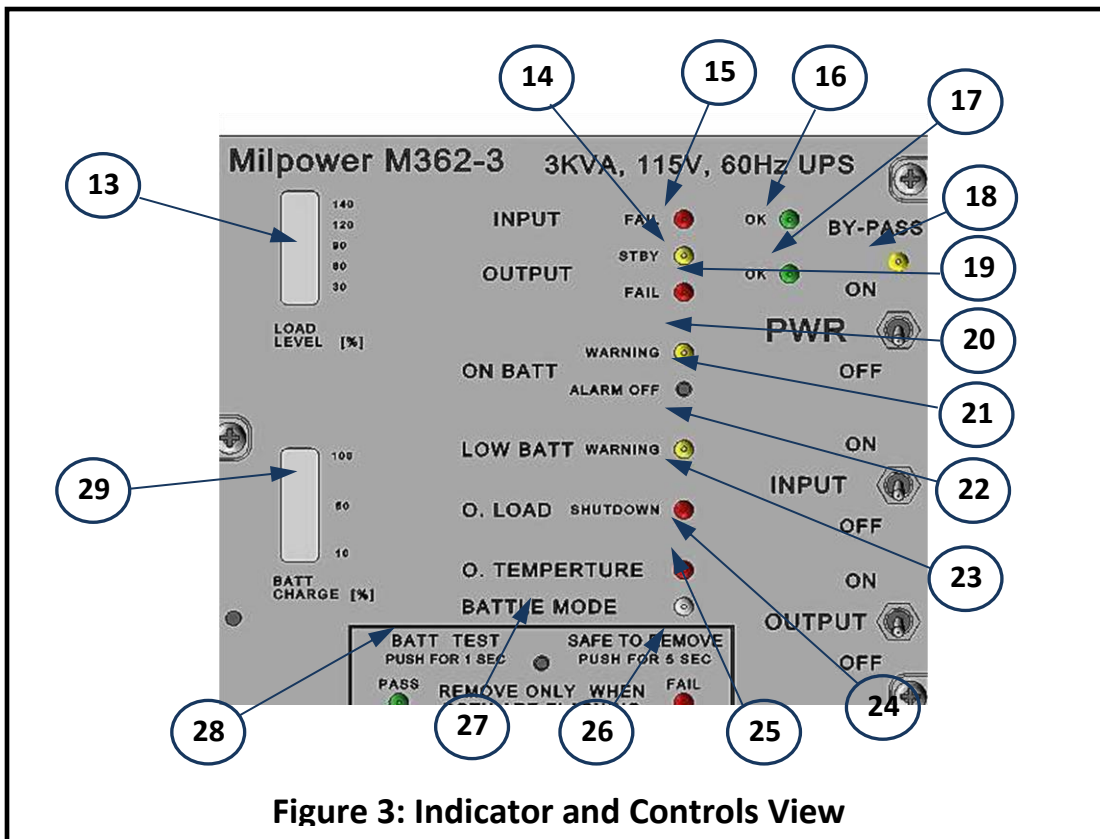

Figure 3: Indicator and Controls View
3.2. Front Panel: Indicators and Controls (Figure 3)